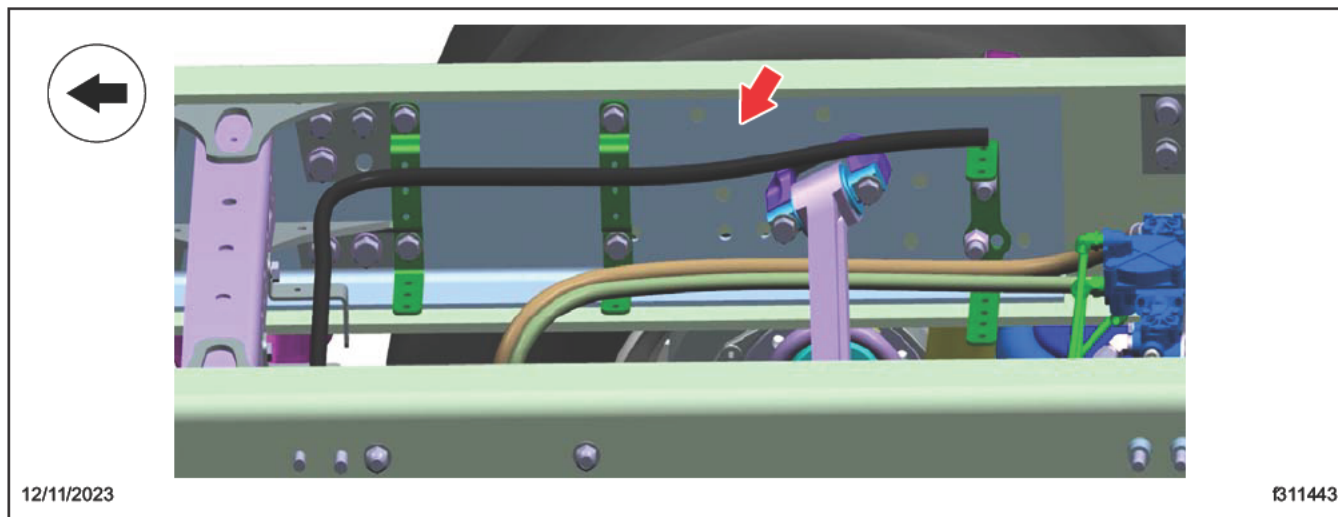

Fig. 16, L-Bracket Installed
7. Align the five-piece replacement crossmember mounting holes, and loosely assemble the crossmember in place. See Fig. 16.